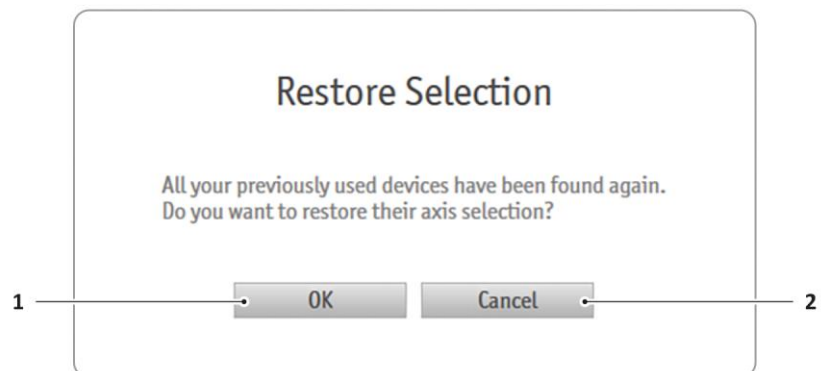

Figure 8 "Restore Selection" dialog
- To restore your last axis selection, click [OK] (Figure 8/1).
- To discard your last axis selection, click [Cancel] (Figure 8/2).